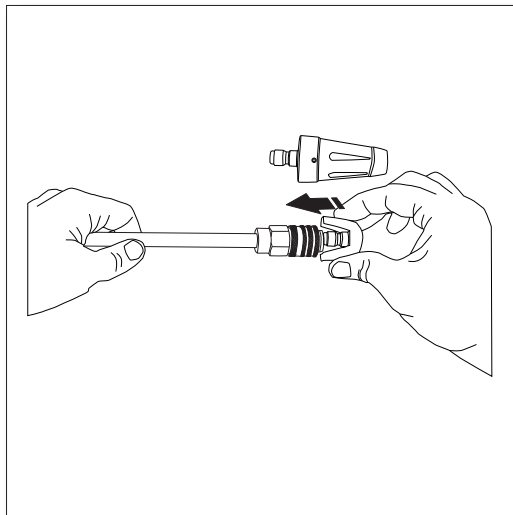
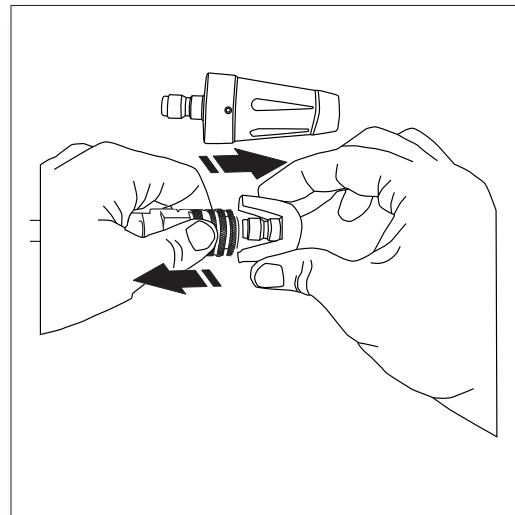

Fig.9
Fig.10
- Attach nozzles into the end of the lance by pressing selected nozzle into place, it will make a click sound when firmly in place (**Fig. 9**). To remove nozzle, pull back on the collar on the lance and pull out the nozzle (**Fig. 10**).